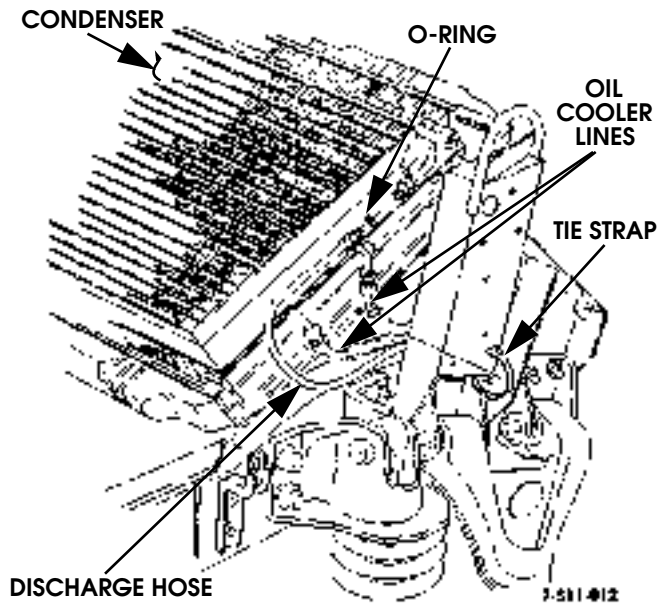

Figure 11-12: Discharge Hose Location
1. Disconnect discharge hose from condenser. Remove and discard O-ring (Figure 11-12).